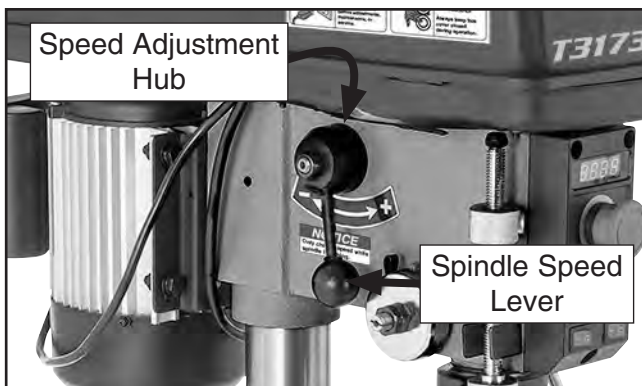

Figure 18. Spindle speed lever installed.
- Thread spindle speed lever into speed adjustment hub (see **Figure 18**).